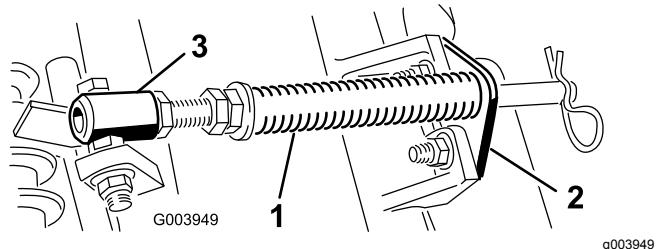

Figure 5
- A. Remove the 2 carriage bolts and nuts securing the rod bracket to the cutting unit tabs (Figure 5).
- Remove the flange nut securing the spring tube bolt to the carrier frame tab (Figure 5). Remove the assembly.